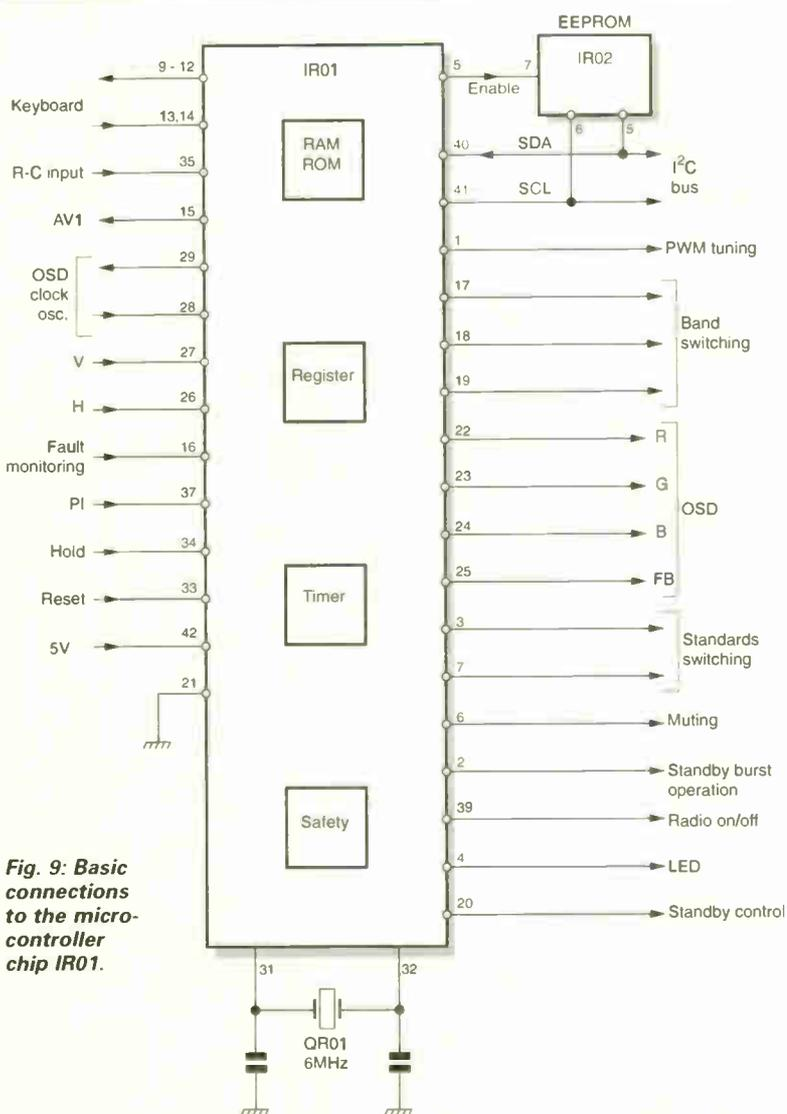
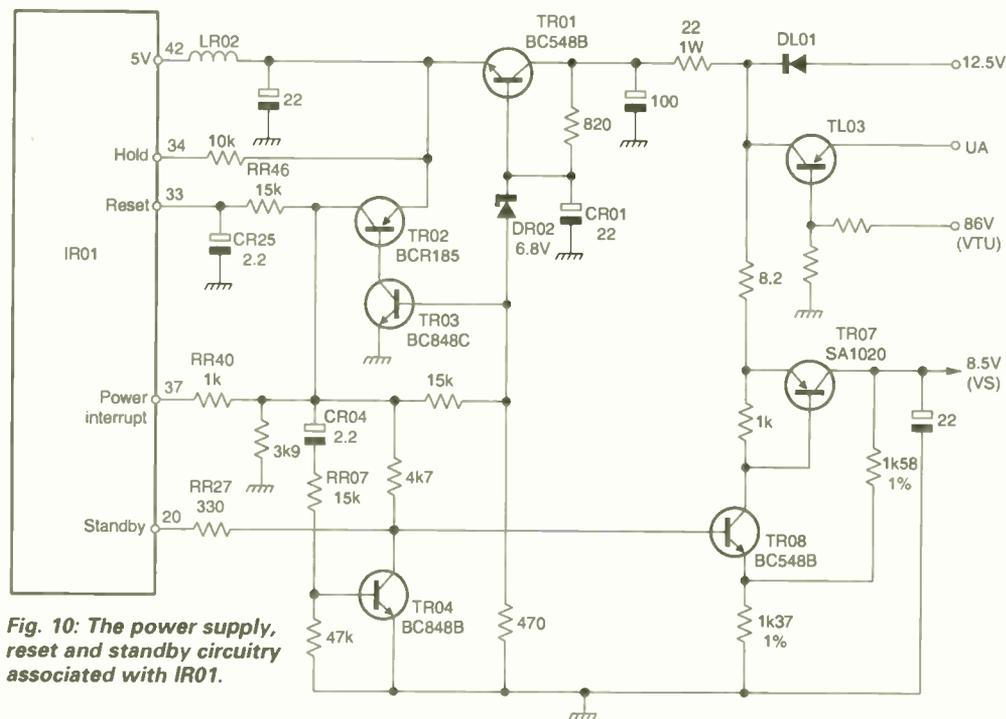

Fig. 9: Basic connections to the microcontroller chip IR01.
Fig. 10: The power supply, reset and standby circuitry associated with IR01.
Fig. 9 shows basic connections to the microcontroller chip, Fig. 10 the power supply, standby control and reset arrangements. IR01 is powered by a 5V supply at pin 42. In normal operation this is derived from the 12-5V supply generated in the line output stage (see Fig. 4, January) via DL01 and a 5V series regulator circuit (TR01 and DR02). In standby the 5V regulator is fed from the chopper power supply generated audio supply (UA) via TL03, which is switched off by the VTU supply at its base once the line timebase is working.